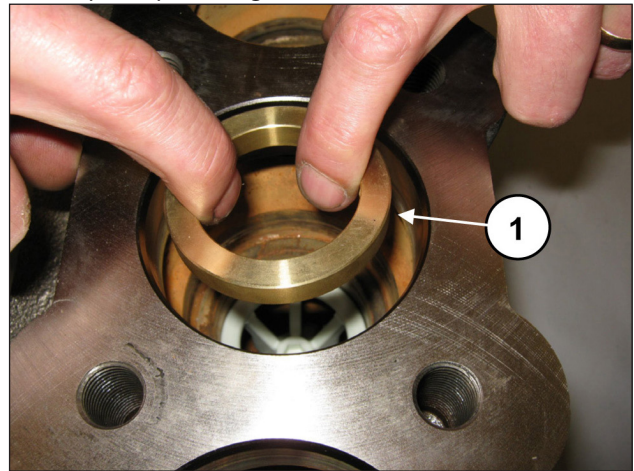
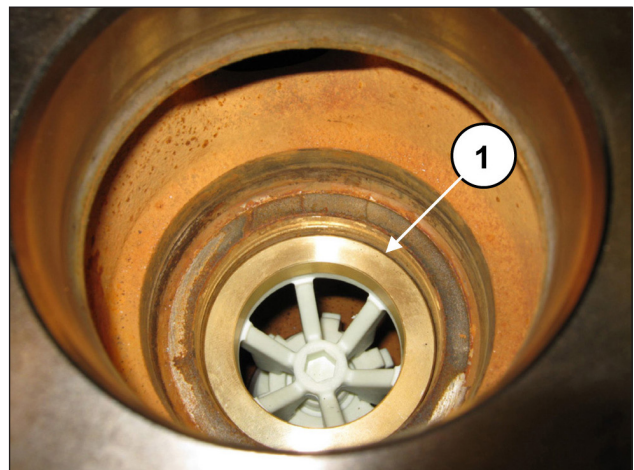

Fig. 115
Fig. 116
Insert the valve housing spacer ring (pos. ①, Fig. 115), resting on the spacer (pos. ①, Fig. 116).